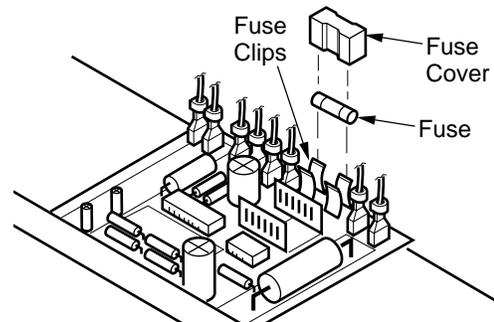

Figure 27 - Replacing Fuse
2. Remove side cover screws (4) using $5/16$ " nut-driver to expose ignition control assembly.
3. Remove fuse cover (see Figure 27).